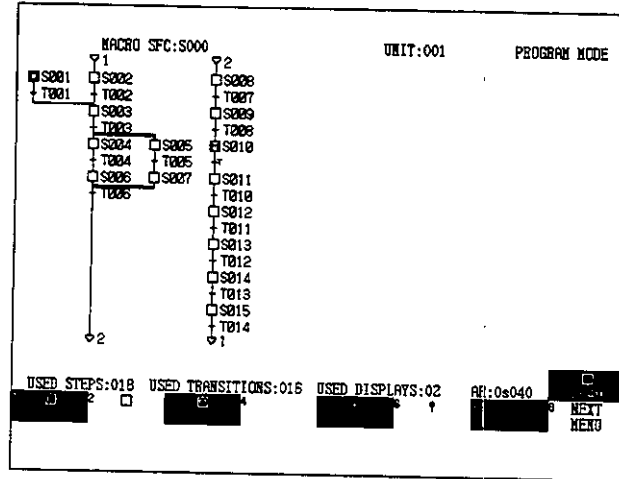

Figure 7.123
- 1) Display the SFC Screen shown in *Figure 7.123*.
- 2) Enter step number **S041** in the AR and press the Enter Key. (See Note (2))
- For disabled status, select Disable Step. (See Note (3))